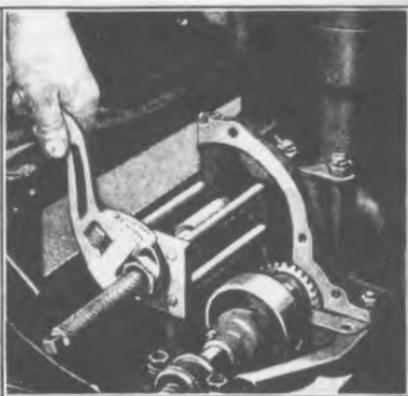

Fig. 283
- 476 Withdraw camshaft from cylinder block with a puller (See Fig. 283).